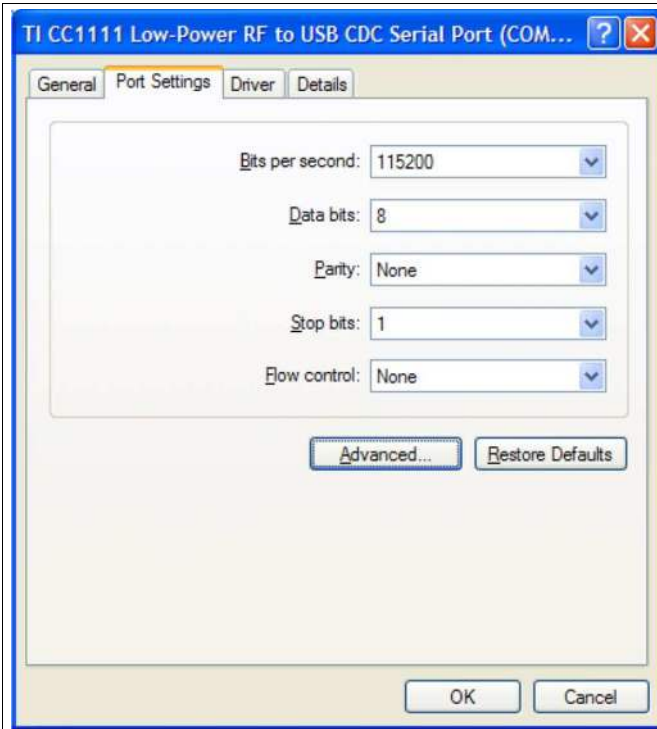
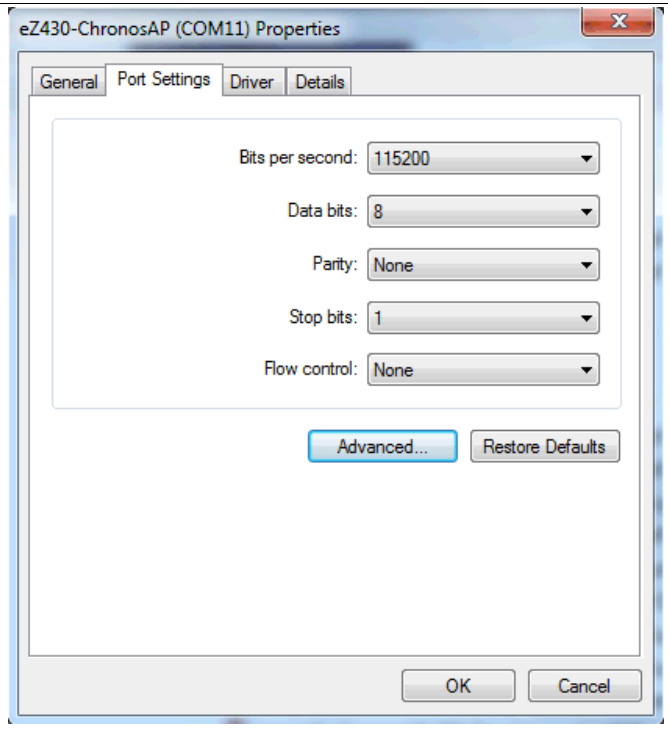

Figure 10. Port Settings for eZ430-Chronos With Black PCB
Figure 11. Port Settings for eZ430-Chronos With White PCB
9. Verify correct properties of the port settings (see Figure 10 and Figure 11).